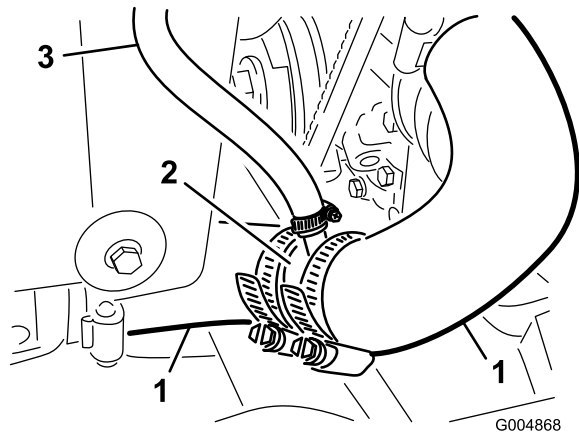
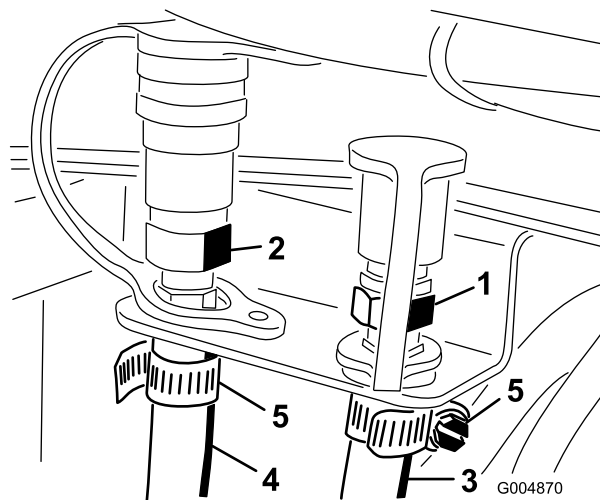
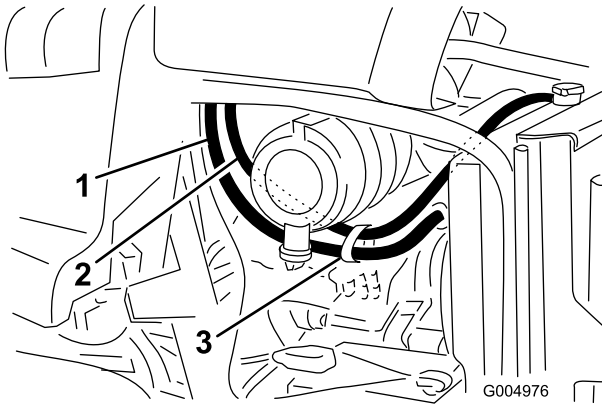
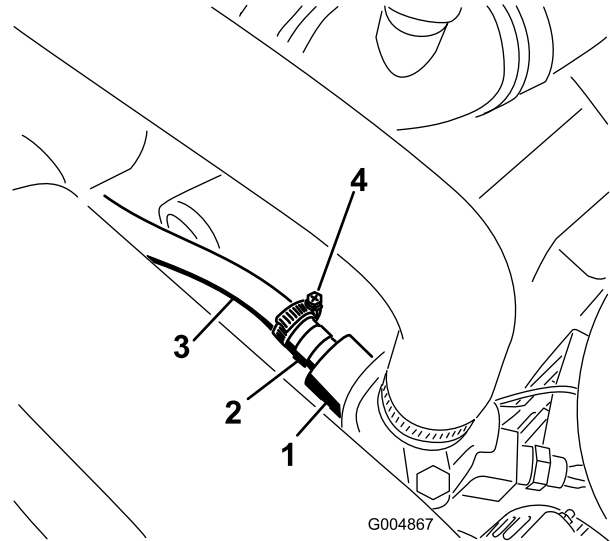

Figure 18
Figure 19
Figure 20
Figure 22
14. Install the tee fitting into the hoses and secure with hose clamps as shown in Figure 18.
15. Connect the 55 inch (140 cm) length of previously cut hose to the new tee fitting in the radiator hose (Figure 18). Secure the hose to the tee fitting with a hose clamp. Route the hose behind the radiator over flow tank, up the right side of the radiator, across the top of the radiator to the left side and under the air cleaner as shown in Figure 20. Insert a hose clamp onto the hose and connect the hose to the nipple coupling (Figure 19). This is the return hose.
17. Install the hose adapter fitting into the engine thermostat housing (Figure 22).
18. Connect the 22-1/2 inch (57 cm) length of hose to the engine thermostat housing adapter fitting (Figure 22). Secure the hose to the adapter fitting with a hose clamp. Route the hose under the air cleaner as shown in Figure 20. Install a hose clamp onto the hose and connect the hose to the quick coupler (Figure 19). This is the pressure hose.
Note: Route the hoses away from any hot, rotating or sharp objects. Secure the two coupler hoses together with a cable tie as shown in Figure 20.